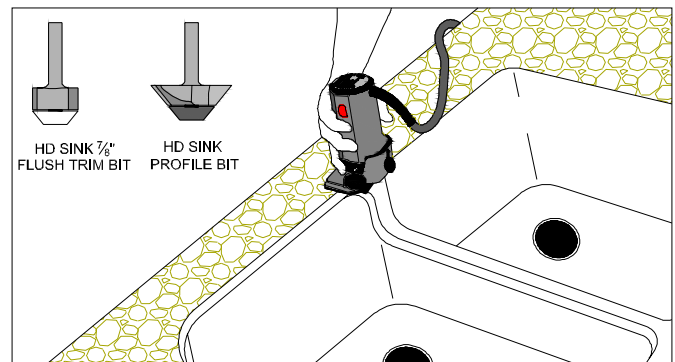

Figure 22C
- Use a laminate trim router with the HD bottom bearing flush trim bit and flush trim the overhanging laminate. (FIG. 22C)
- Use a laminate trim router with the HD sink profile bit, profile the edge of the laminate with the angle of the sink. (FIG. 22C)